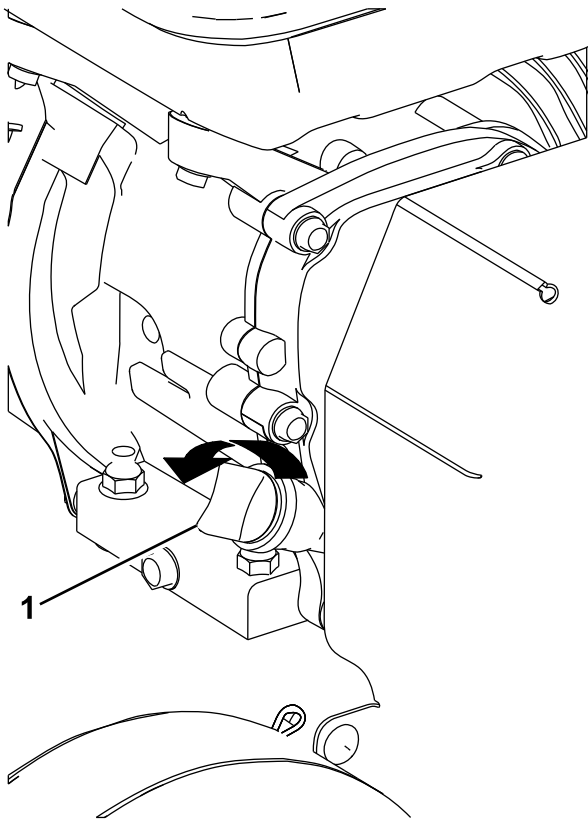

Figure 14
2. Clean around the dipstick (Figure 14) so that dirt cannot fall into the filler hole and damage the engine.
3. Unscrew the dipstick and wipe the end clean (Figure 14).
4. Insert the dipstick fully onto the filler tube. **Do not screw in.** (Figure 14).